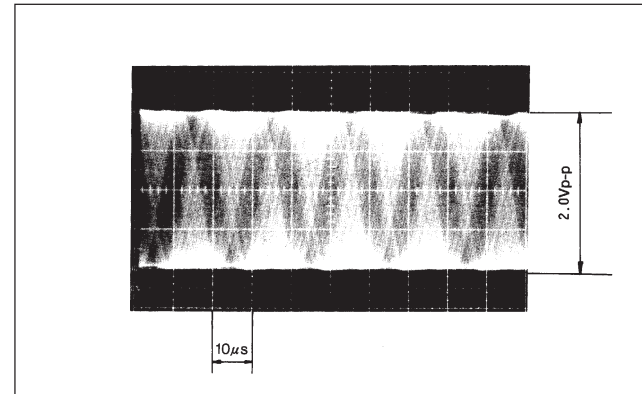

Fig. 9
- ⑥ Adjust the RV2 volume again so that the sine wave amplitude is between 1.9 Vp-p and 2.1 Vp-p as shown in Fig. 9. Fig. 9 shows the ideally adjusted condition.